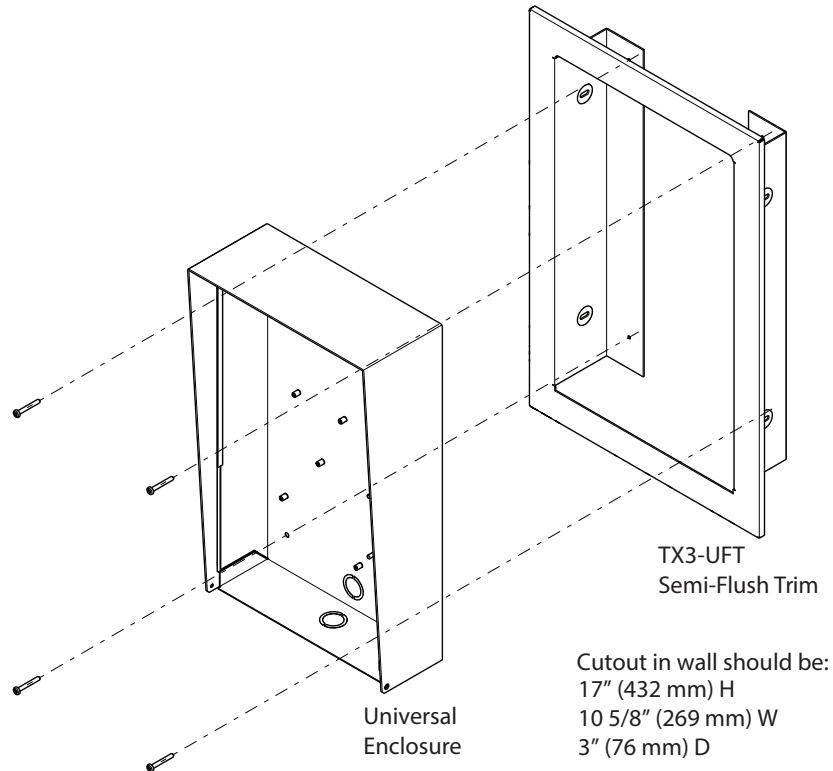

Figure 3. Mounting TX3-UFT Universal Series Flush Trim Ring
The Universal enclosure mounts inside the wall with or without the TX3-UFT Universal Series Flush Trim Ring TX3-UFT. This Trim Ring houses the universal series enclosure as shown in figure 3.
4. Using the semi-flush trim ring as a template, insert the trim ring into the wall cut out and mark the top mounting hole location as shown in figure 3. Ensure that at least one side is beside a wall stud.
10. Secure the universal enclosure into the trim ring using the supplied four screws as shown in figure 3.
3. Using the semi-flush trim ring as a template, insert the trim ring into the wall cut out and mark the top two mounting hole locations as shown in figure 3.
1. Using the semi-flush trim ring as a template, insert the Universal enclosure into the wall cut out and mark the top two mounting hole locations as indicated in figure 3.